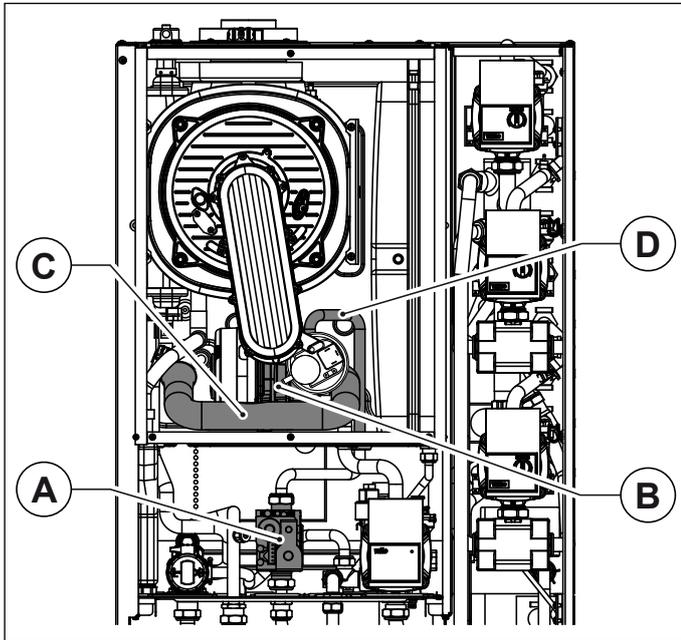

Fig. 35 Intake pipe
- Loosen the screw securing intake pipe to mixer, and remove pipe (see Fig. 35 Intake pipe).
- Disconnect the gas pipe from the mixer (see Fig. 35 Intake pipe).